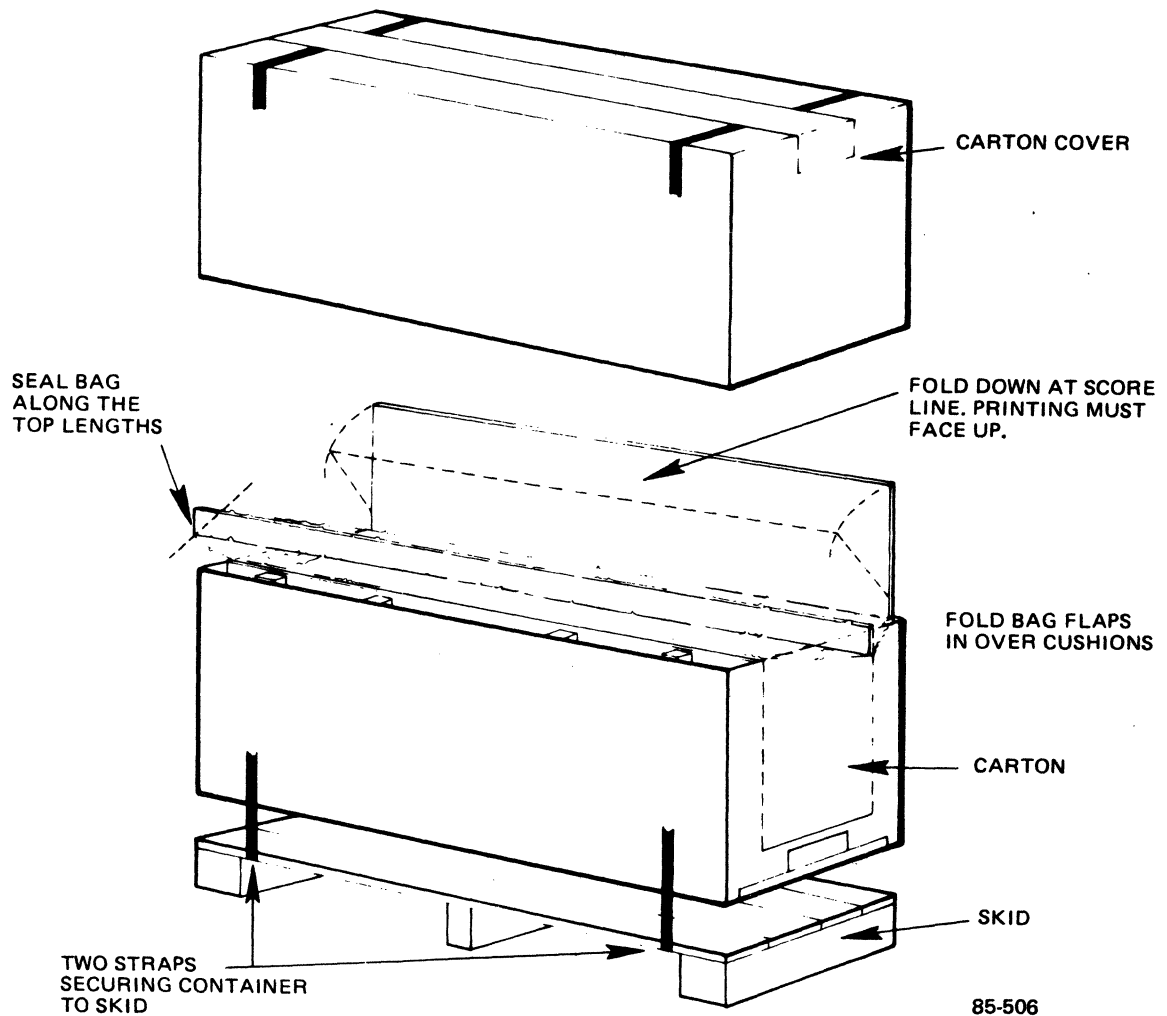

Figure 4-6. Closing the Shipping Carton
15. If present, slide the printed cardboard insert down between the bag and the carton (see Figure 4-6). Fold it at the crease so that the printed side is lying face up on the bag.
16. Place the top cover on the shipping carton (see Figure 4-6).